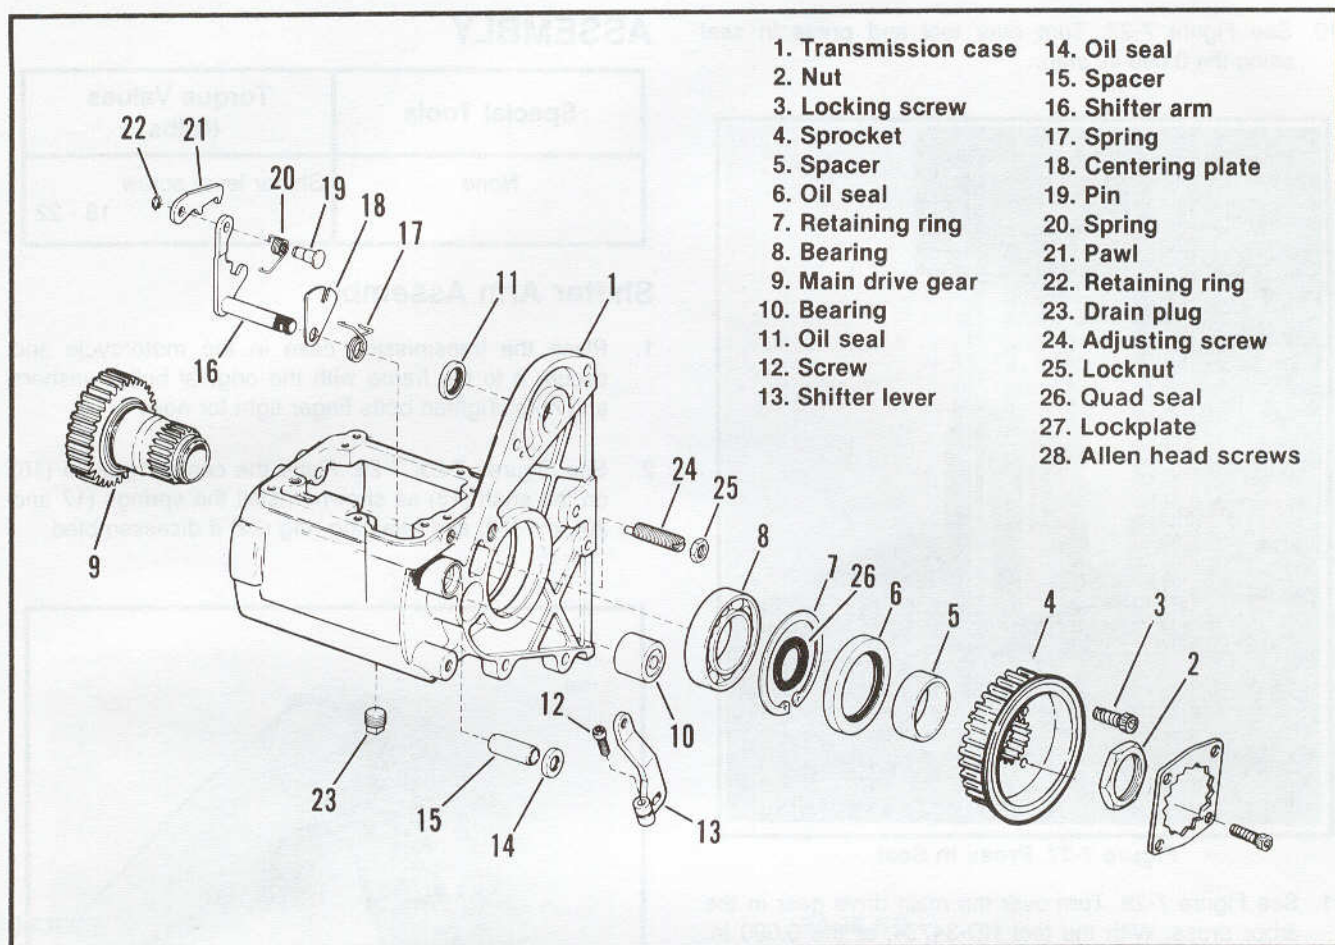

Figure 7-25. Transmission Case, Sprocket and Main Drive Gear
If main drive gear (9, Figure 7-25) was removed, install it now, following the procedure outlined later in the section under MAIN DRIVE GEAR.
5. See Figure 7-25. To remove main drive gear:
- a. Remove retaining ring (7).
2. See Figure 7-25. Install the quad seal (26), spacer (5) and sprocket (4) on the main drive gear (9). Coat the threads of sprocket nut (2) with Loctite 262 (red) and install on the main drive gear.
1. See Figure 7-25. Loosen screw (12) and remove shifter lever (13) from shifter arm (16).
2. Loosen locknut (25) and turn adjusting screw (24) out until it clears the centering plate (18). Pull shifter arm assembly out of the case.
6. See Figure 7-25. Inspect the springs (17 and 20). Replace the pawl spring (20) if it fails to hold the pawl (21) on the cam pin (19).
2. See Figures 7-25, 7-29. Place the centering plate (18) on the shaft (16) as shown. Install the springs (17 and 20), pin (19) and retaining ring (22) if disassembled.
4. See Figure 7-25. Install shifter lever (13) on the shaft end and tighten the screw (12) to 18-22 ft-lbs torque. Be sure screw (12) registers in the slot on the shifter arm (16).